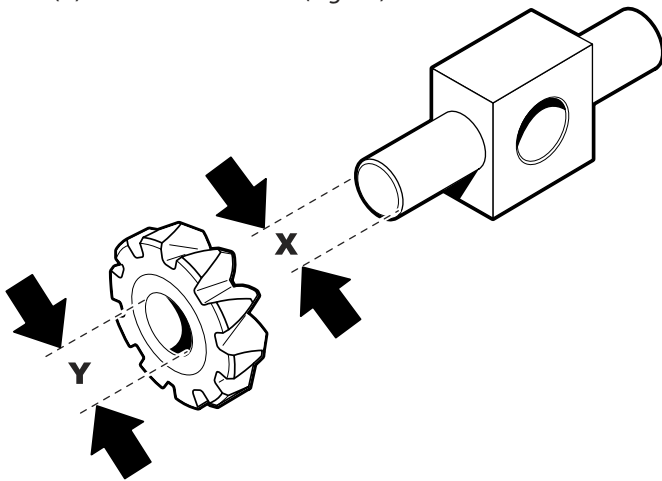

Fig. 18, Differential Pinion Shaft and Pinion Gears Clearance
1. Using calipers (digital recommended) measure the O. D. (X) of the Pinion Shaft. (Fig. 18)
2. Measure the I. D. (Y) of the Pinion Gears. (Fig. 18)